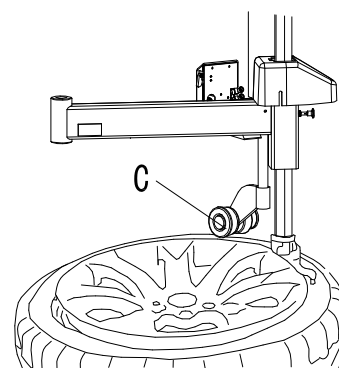

Fig 11
3. Nearby demounting/mounting head, insert lift lever **N** into tyre, use lift lever to lift bead upon knob of demounting / mounting head. Manually rotate roller **C** to inner side, pull handle **D** down, make roller **C** to press rim, keep 3-5mm gap between demounting/mounting head and rim, make sure demounting/mounting head not damage rim, rotate turntable, demount tyre upper bead (Fig 11)